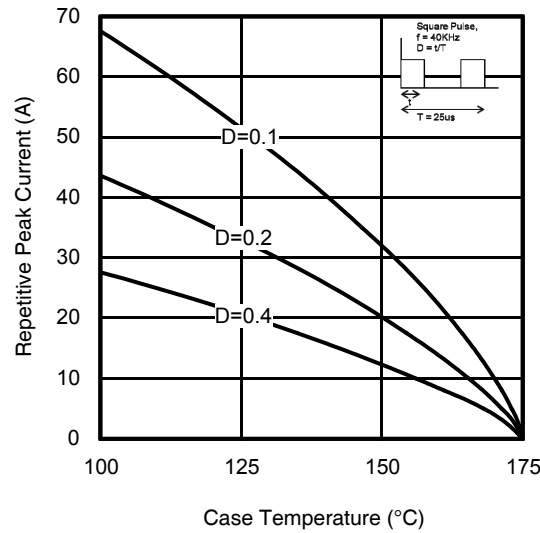

Fig. 26. Maximum Diode Repetitive Forward Peak Current vs. Case Temperature
- ① $V_{CC} = 80\% (V_{CES}), V_{GE} = 20V, R_g = 10\Omega, L = 210\mu H$.
- ② R_θ is measured at T_J of approximately 90 $^\circ\text{C}$.
- ③ Refer to AN-1086 for guidelines for measuring $V_{(BR)CES}$ safely.
- ④ Pulse width limited by max. junction temperature.
- ⑤ Values influenced by parasitic L and C in measurement.
- ⑥ fsw = 40KHz, refer to figure 26.